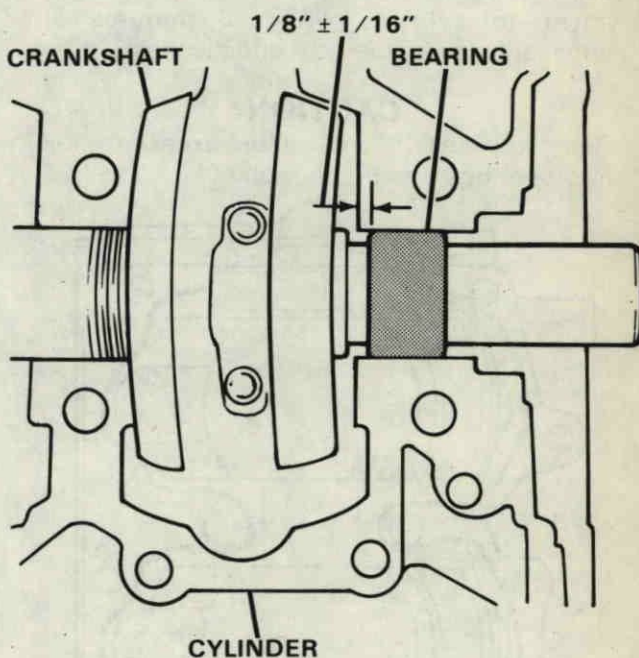

Figure 32. Positioning Lower Main Bearing.
- F. Lay crankshaft in cylinder, connecting rod throws over open end of connecting rods. Position lower main bearing. Figure 32.